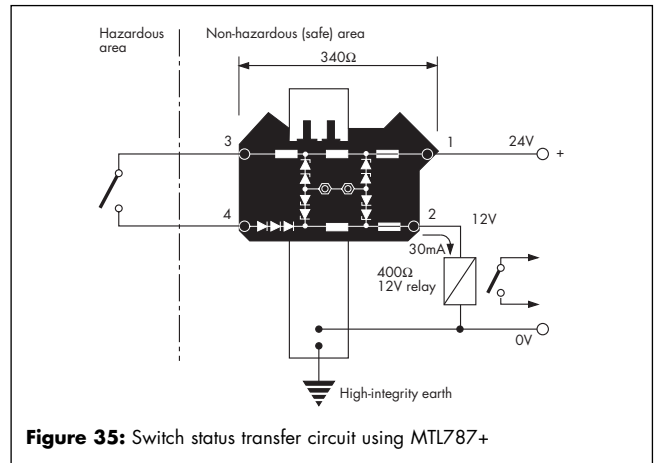

Figure 35: Switch status transfer circuit using MTL787+
Figure 35 shows a typical switch-status transfer circuit protected by an MTL787S+ barrier, which can be used to illustrate some of the fault-finding techniques discussed in this section. To determine the serviceability of barriers, proceed as described in the remainder of this section, but whenever possible always check barriers by working on the non-hazardous (safe) area terminals and the circuits connected directly to them.
Check that the power supply is available to the barrier circuit and that the voltage across the supply and with respect to earth is correct. For example, referring to figure 35, the presence of 24V on terminal 1 and 12V on terminal 2 when the hazardous-area switch is closed confirms the serviceability of almost the complete circuit.
If testing a barrier in situ, refer to figure 35 and proceed as follows:
- 9.2.2** Disconnect the non-hazardous (safe) area cables, terminals 1 and 2, and insulate them completely to prevent them from shorting together, to other cables or earth. Be careful when handling non-hazardous (safe) area cables; the relay contacts in figure 35 for example could be carrying mains voltage.
- 9.3.2** For the barrier shown in figure 35 the readings shown in table 20 should be obtained when connecting a test meter with the diode test function selected.
- 9.3.3** In the case of the circuit shown in figure 35, with the hazardous-area cables connected to the terminals, and the test meter connected between terminals 1 (+ve) and 2 (-ve) a reading of  $\infty$  will be obtained if the switch is open and a reading of approximately 1.2V if the switch is closed, and no earth faults are present. To check if either of the hazardous-area cables is shorted to earth, connect the test meter as in table 21 which shows the readings that will indicate a fault to earth.